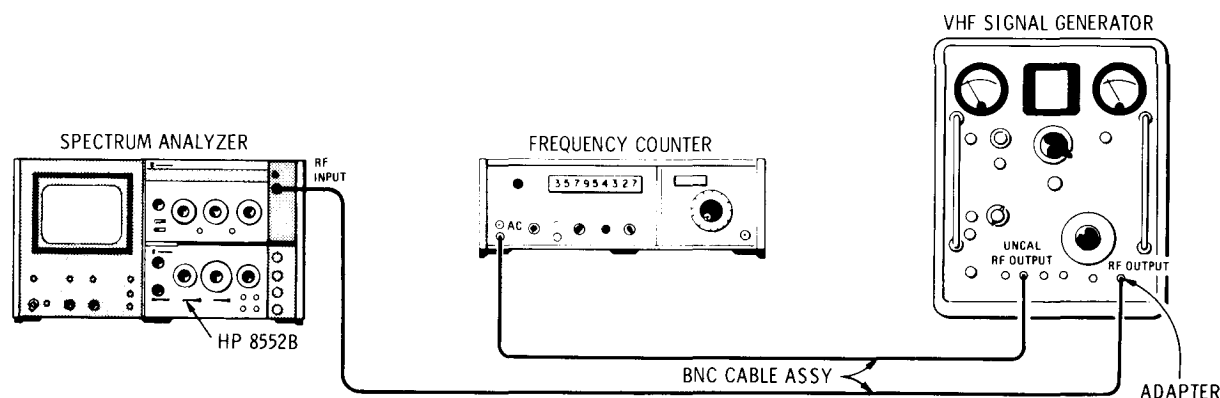

Figure 4-5. 10 kHz Bandwidth Accuracy Test Setup
6. To check the 10 kHz bandwidth, connect the test setup shown in Figure 4-5 and make the following control settings.